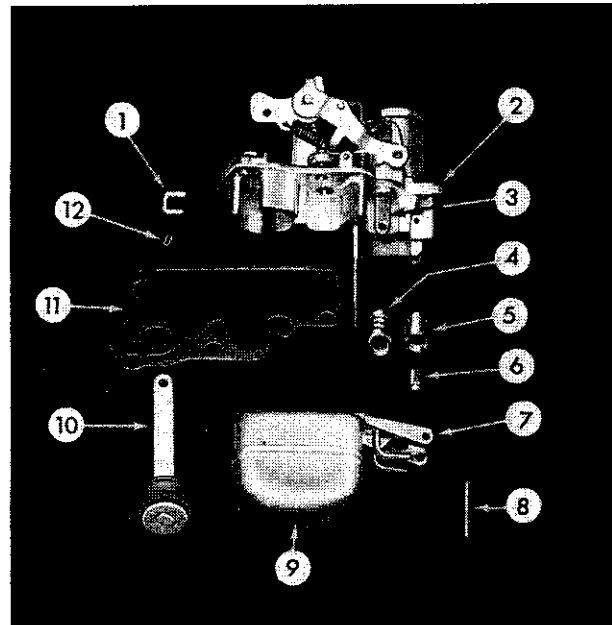
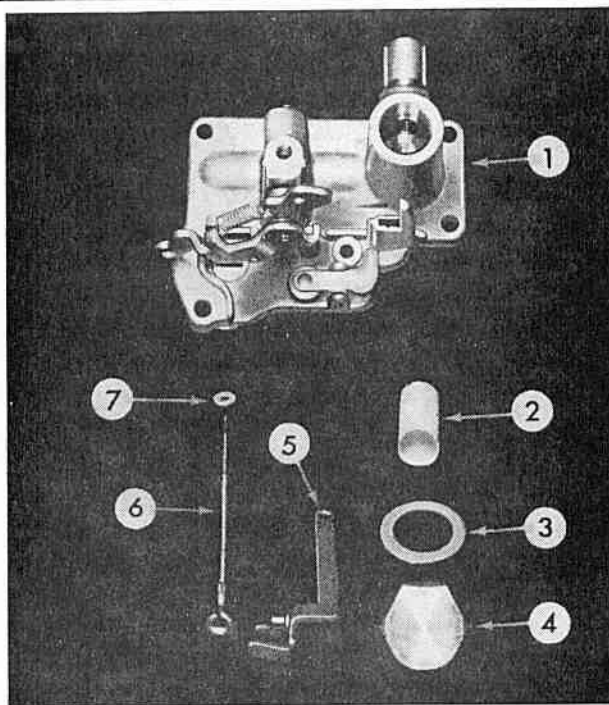

FIG. 400
FIG. 401
To disassemble the bowl cover assembly, turn the vacuum piston (4, Fig. 400) 90° counterclockwise and unhook it from the vacuum piston link (3). Remove the vacuum piston link (5, Fig. 401) with metering rod spring and the metering rod (6) and disk (7) from the bowl cover (1). Remove the disk from the metering rod, unhook the metering spring, and remove the rod from the vacuum piston link. Then remove the strainer nut (4), gasket (3), and strainer (2). Then, remove the hair pin clip (12) and pump connector link (1), and remove the accelerating pump